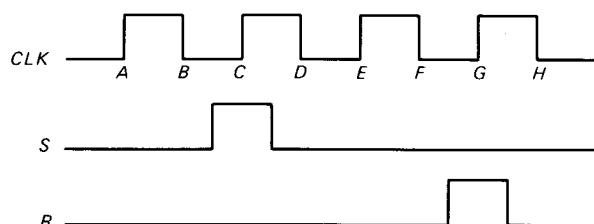

Fig. 7-17
- 7-1. The waveforms of Fig. 7-17 drive a clocked *RS* latch (Fig. 7-5a). If *Q* is low before time *A*,